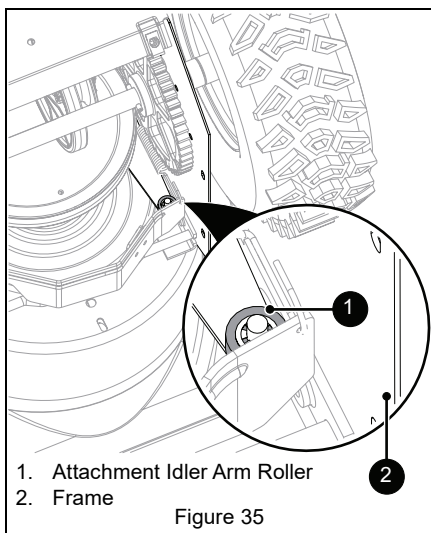

Figure 35
2. Engage attachment clutch and check the clearance between the frame and plastic roller on the lower end of the attachment idler arm. Roller should be 12.7 mm – 22.2 mm (1/2" – 7/8") from the frame. See Figure 35.